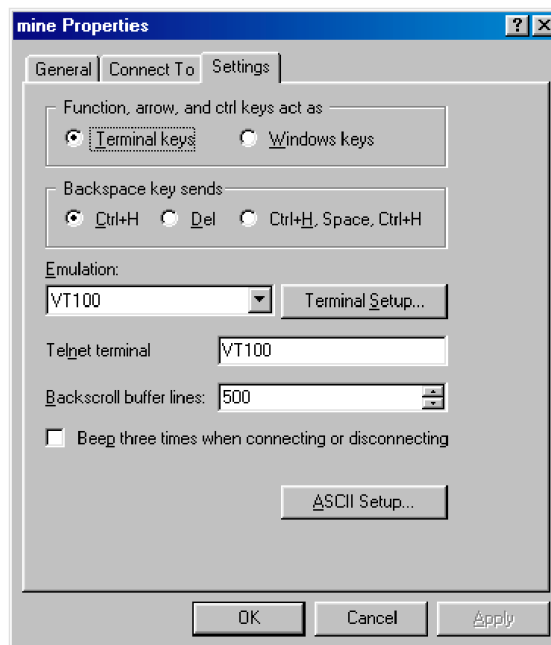

Figure 44. Terminal keys configuration
- Configure the Settings for *Function, arrow and ctrl keys act as to Terminal keys* as shown in figure 44.